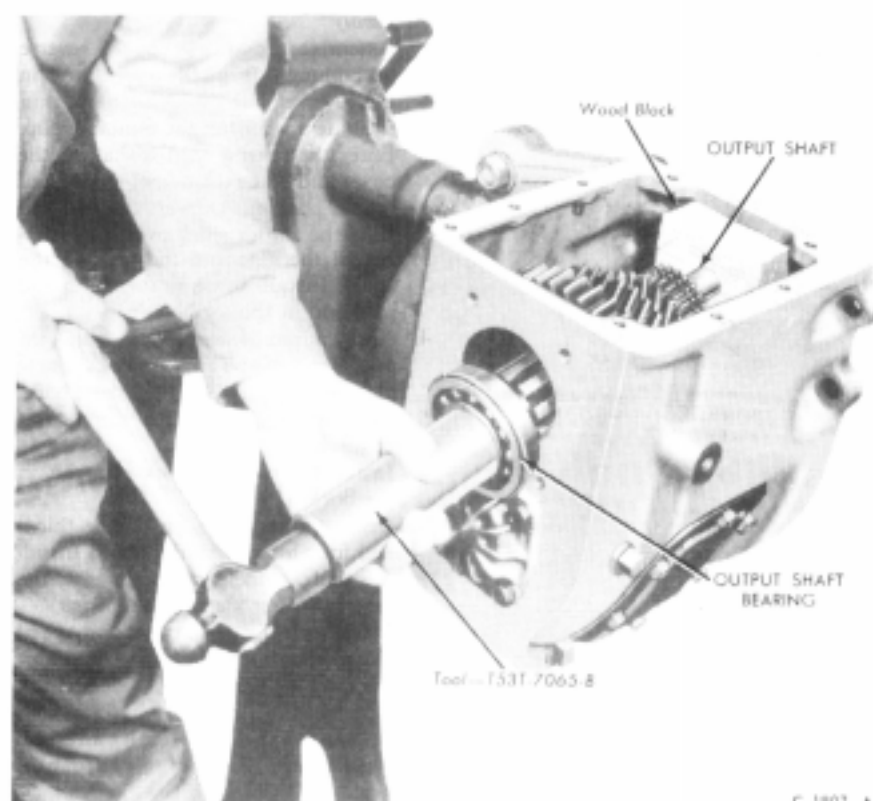

FIG. 11 Installing Output Shaft Rear Bearing
9. Place a wood block in the front of the case as shown in Fig. 11. Drive the bearing onto the rear of the output